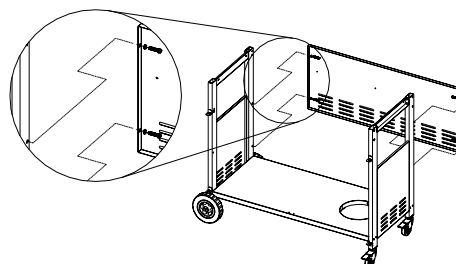

Figure 5
5. Attach the back panel to the cart legs using (4) 1/4 x 3/8" Phillips head screws and (4) 1/4" lock washers. (Fig.5)